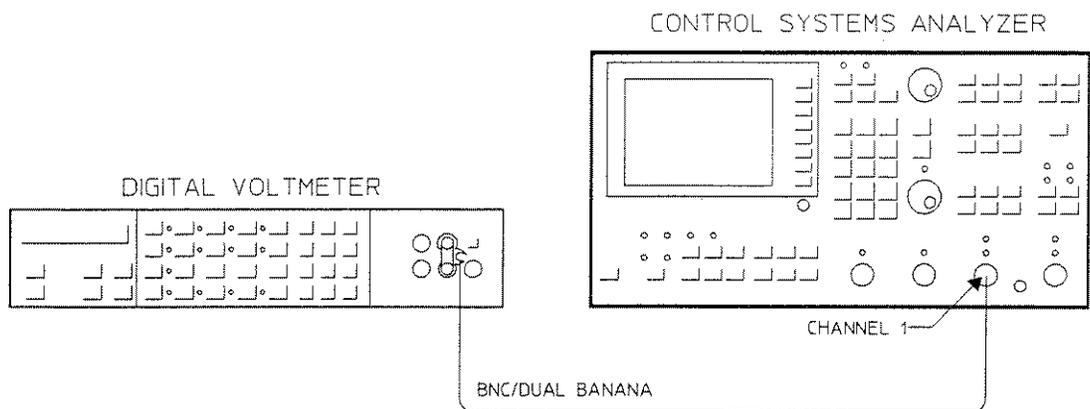

Figure 4-15. Input Resistance Test Setup
1. Connect the test instruments as shown in Figure 4-15.